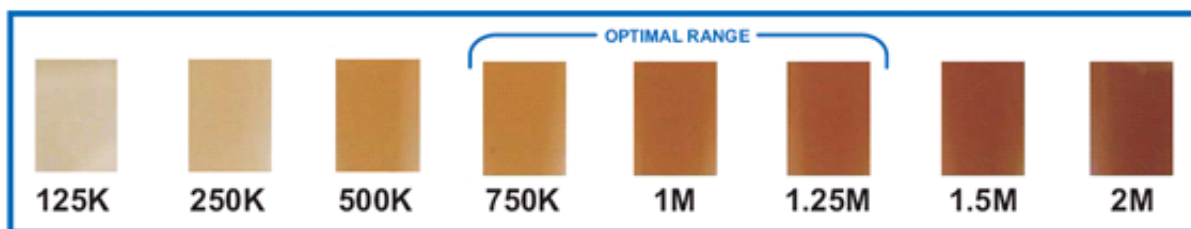

Figure 37 The SOLiD™ Bead Concentration Chart (facsimile). For best results, use the SOLiD™ Bead Concentration Chart (PN 4415131), supplied separately.
3. Use the SOLiD™ Bead Concentration Chart (Applied Biosystems PN 4415131) to estimate the bead concentration of the beads (see Figure 37 for a picture of the chart; for best results use the official chart).